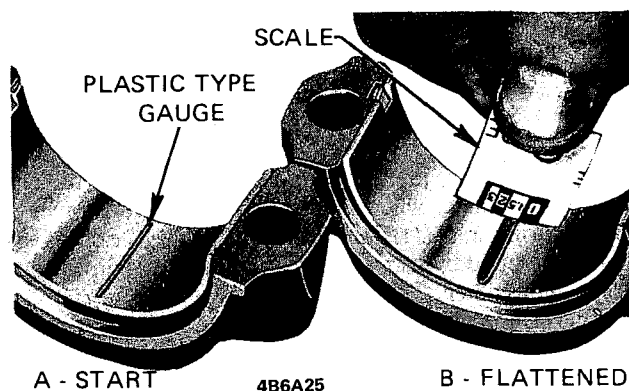

Figure 6A-72 - Checking Bearing Clearance With Plastic-Type Gauge
2. Place a piece of plastic-type gauge lengthwise along the bottom center of the lower bearing shell (Figure 6A-72,